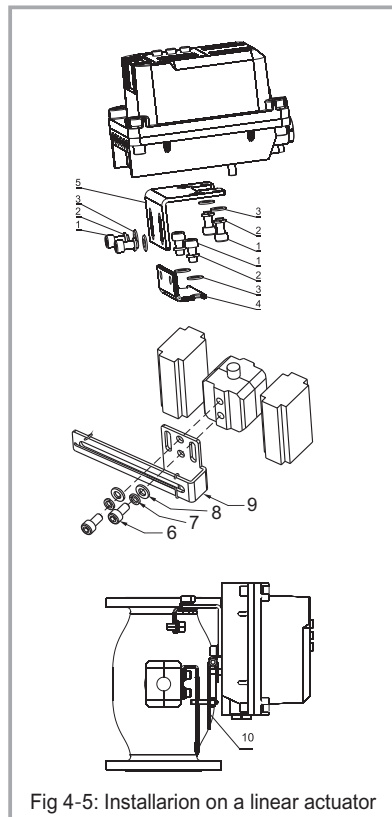

Fig 4-5: Installarion on a linear actuator
The positioner mounting on the front of the actuator, with the adjustable connection by the feedback lever and feedback bracket(Fig. 4-5),The installation steps as followings:
Fix the positioner bracket (Fig. 4-5/⑤) to the positioner with inner-hexagon head screws(Fig. 4-5/①), spring washers(Fig. 4-5/②) and washers (Fig. 4-5/③).
Fix the actuator bracket (Fig. 4-5/④) to the actuator with inner-hexagon head screws(Fig. 4-5/①), spring washers (Fig. 4-5/②) and washers (Fig. 4-5/③).
Fix the feedback bracket (Fig. 4-5/⑨) to the actuator with inner-hexagon head screws(Fig. 4-5/⑥), spring washers (Fig. 4-5/⑦) and washers (Fig. 4-5/⑧).
Fix the feedbacklever(Fig. 4-5/⑩) to the feedback shaft of positioner through fasten screw.
Fix the positioner to the actuator with inner-hexagon head screws(Fig. 4-5/①), spring washers (Fig. 4-5/②) and washers (Fig. 4-5/③).
After installation, please fine-tune the position of the actuator bracket (Fig. 4-5/④) and feedback bracket(Fig. 4-5/⑨) to make sure that the feedback lever(Fig. 4-5/⑩) is horizontal when the valve is 50% opened. See the solid line in Fig. 4-5.